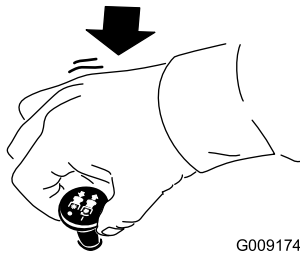

Figure 27
1. Disengage the blades by moving the blade-control switch to the OFF position (Figure 27).